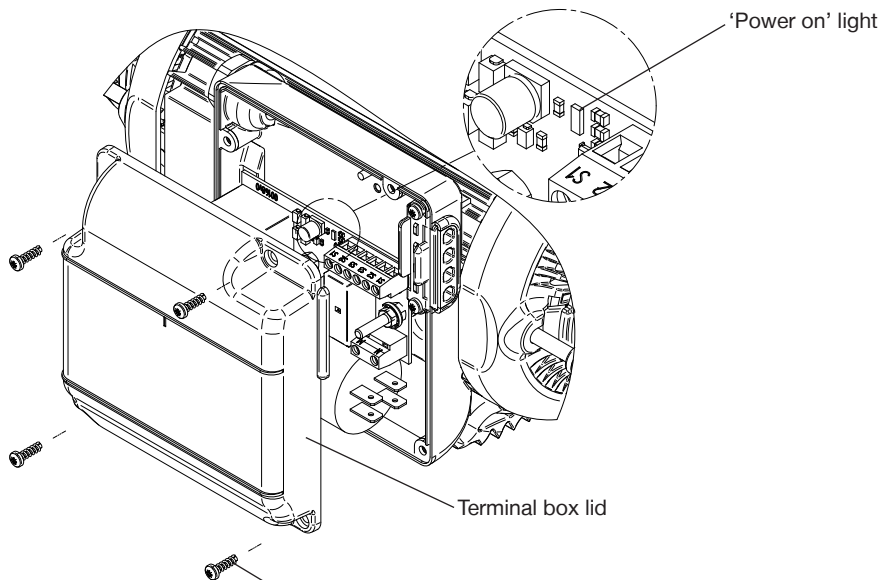

Fig. 12 Wiring removed for clarity
- Remove the four screws retaining the terminal box lid (Fig. 12).